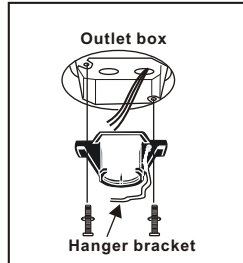

Figure 5
Step 1. Secure the hanger bracket to the ceiling outlet box using screws included with your outlet box, lock washers included with the fan. (Fig.5)